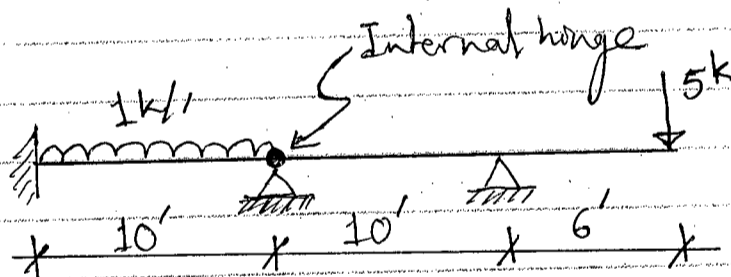

Fig. 10
6. (a) Draw bending moment diagram of the beam shown in Fig. 10 using the Stiffness Method. Given:  $I = 1000 \text{ in}^4$ ,  $E = 3000 \text{ ksi}$ . (25)